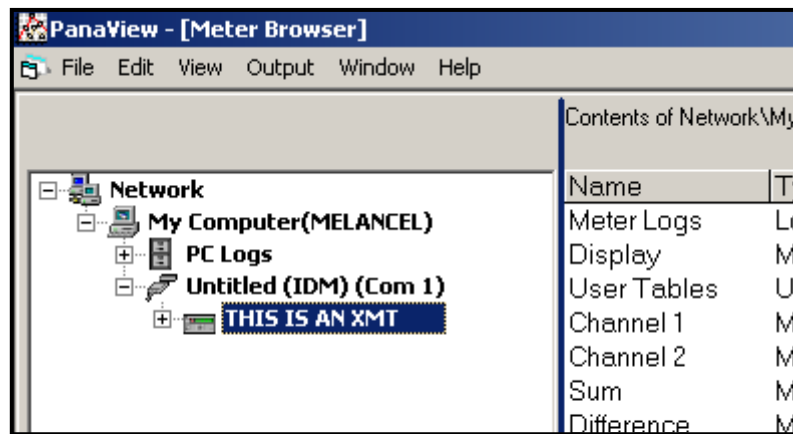
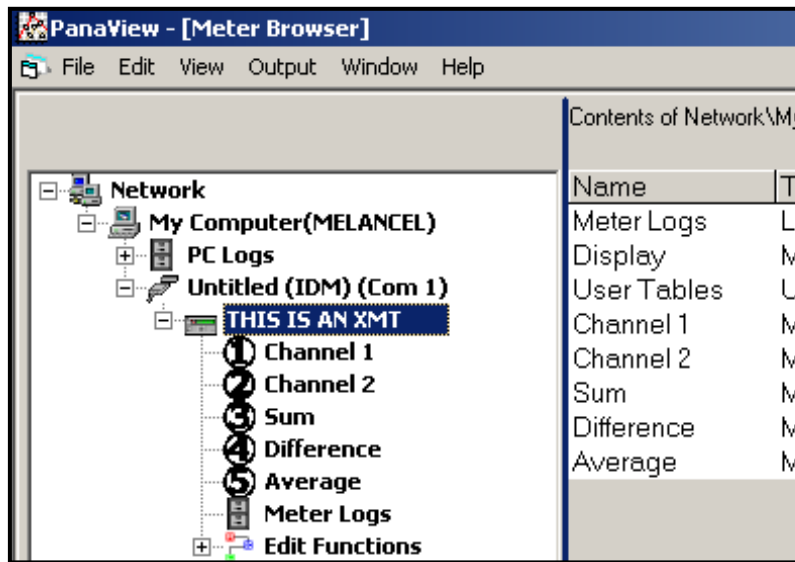

Figure 38: The Updated Network Tree
Figure 40: Meter Tree with *Edit Functions* Option
If the initialization is successful, the *Meter Browser* shows a listing similar to Figure 38.
1. From the meter tree in the *New Meter Browser* (see Figure 38 on page 24), click on the XMT entry. The screen now appears similar to Figure 40.